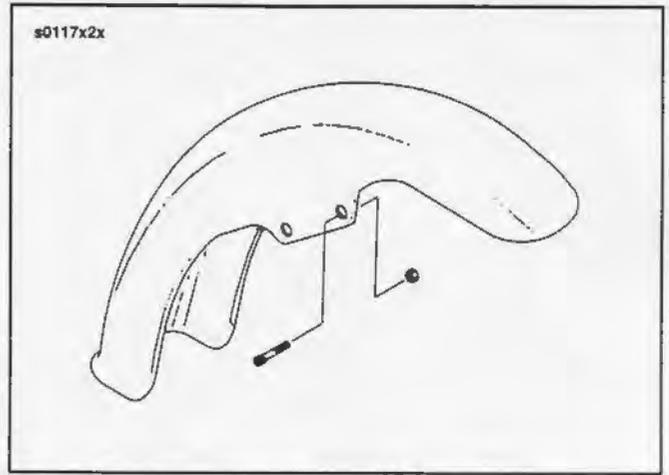

Figure 2-91. Front Fender - FLSTF
2. See Figure 2-91. Remove screws and flange nuts that hold fender in place and remove fender.